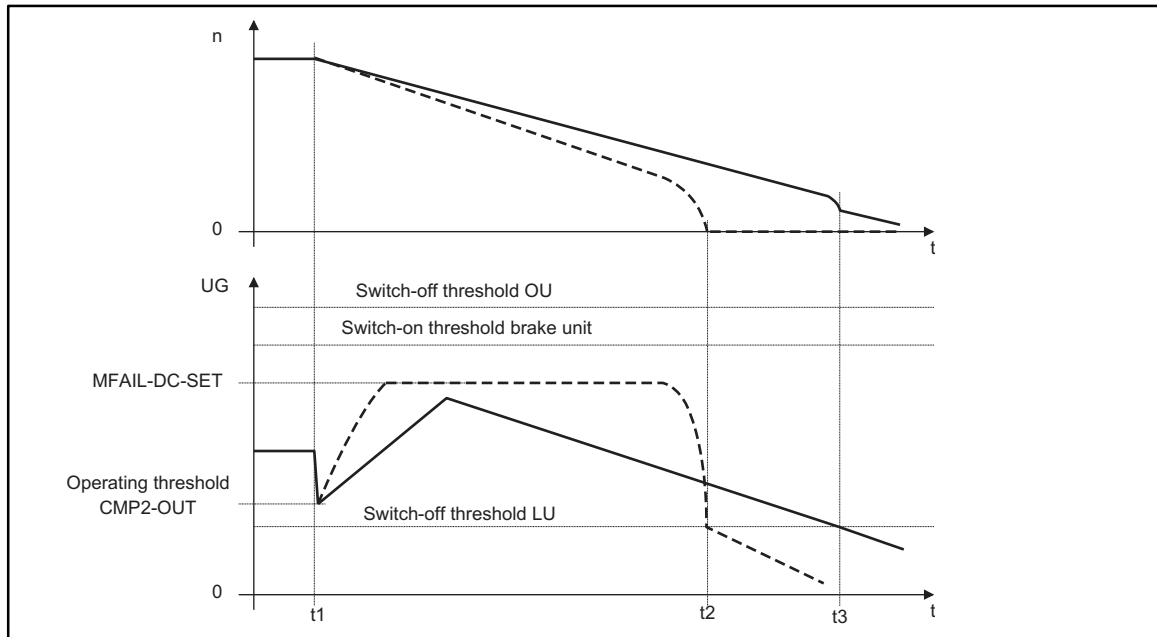

Abb. 7-122
- Increase of the deceleration time or reduction of the brake torque (see Abb. 7-122) is only possible with restrictions: